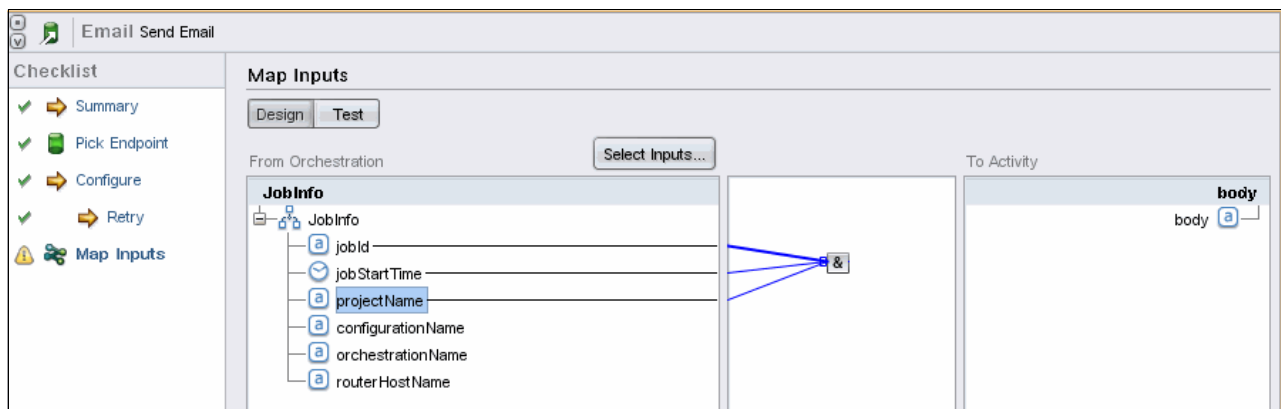

Figure 11-40 Mapping fields to a Concatenate function
- a. From the From Activity pane map the jobId, jobStartTime, and projectName to the Concatenate function box in the middle section. To form a map, click the field, and then drag to the function. Refer to Figure 11-40.